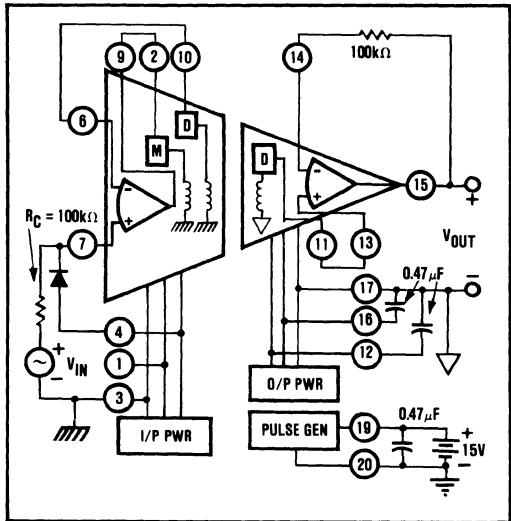

FIGURE 2. Power: Three-port Isolation; Signal: Unity-gain Noninverting.
5. The input voltage at pin 7 (noninverting input to A₁) must not exceed the voltage at pin 4 (negative supply voltage for A₁) in order to prevent a possible lockup condition. A low leakage diode connected between pins 7 and 4, as shown in Figure 2, can be used to limit this input voltage swing.
NOTE: Figures 2, 3 and 4 are used to illustrate both signal and power connection configurations. In the circuits shown, the power and signal configurations are independent so that any power configuration could be used with any signal configuration.
The power supply connections in Figure 2 show the full three-port isolation configuration. The system has three separate grounds with no galvanic connections between them. The two external 0.47μF capacitors at pins 12 and 16 filter the rectified isolated voltage at the output stage. Filtering on the input stage is provided by internal capacitors. In this configuration continuous isolation voltage ratings are: 3500V between pins 3 and 17; 3500V between pins 3 and 19; 1000V between pins 17 and 19.
The signal path portion of Figure 2 shows the 3656 in its simplest gain configuration: unity gain noninverting. The two 100kΩ resistors provide balanced resistances to the inverting and noninverting inputs of the amplifiers. The diode prevents latch up in case the input voltage goes more negative than the voltage at pin 4.